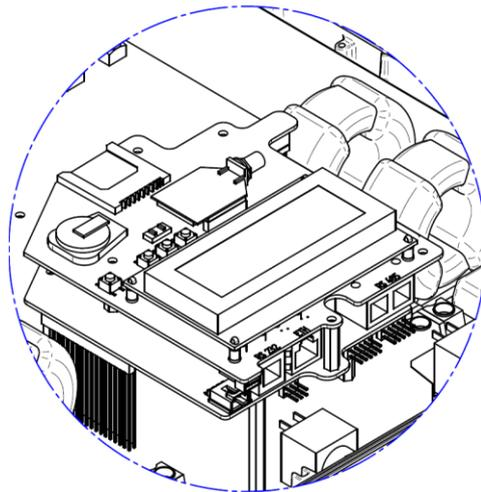

Figure 18: Ethernet and RS485 Connectors
- Connect the Ethernet connector to the RJ45 plug on board in the inverter, as shown in Figure 18.